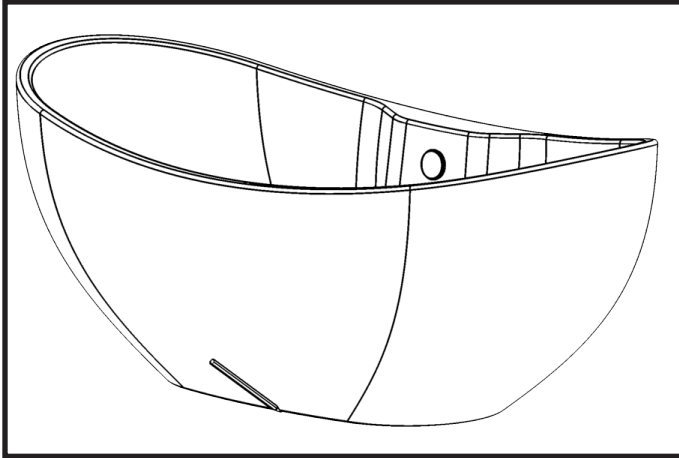

FIGURE 1
3. Place the bathtub in the exact location of installation and trace the outline of the bottom of the bathtub with a pencil or erasable marker. See Figure 1.